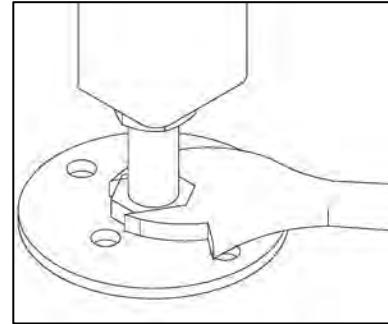

Figure 2
b. Use a large adjustable wrench to loosen the Hex Nut, then rotate the hex welded to the foot to the desired height (**Figure 2**), and finally retighten the 3/4-10 Hex Nut to secure it in position.